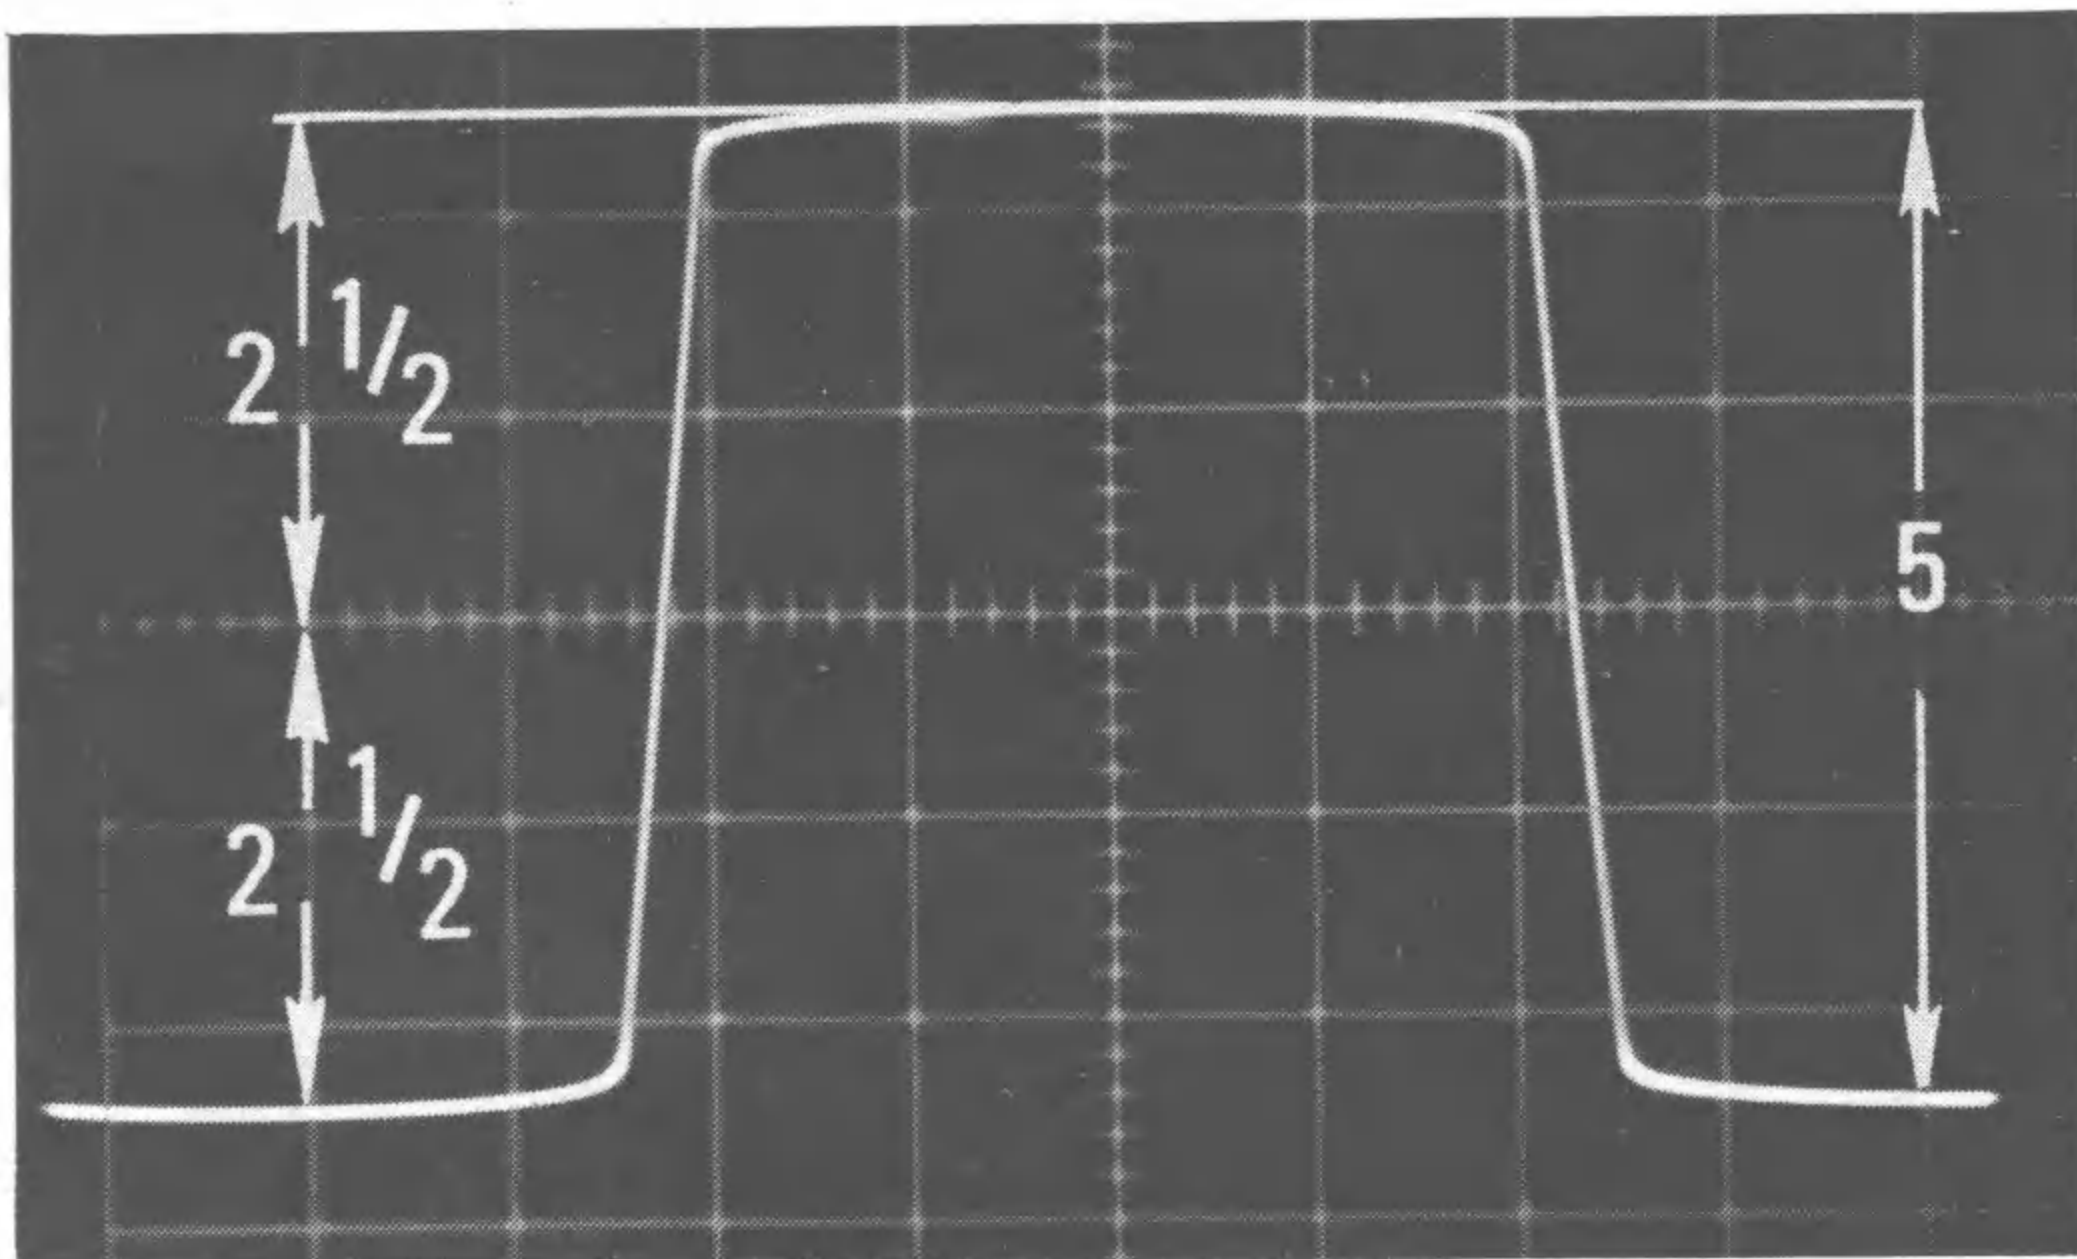

Fig. 14. Centering waveform for rise time measurement.
3. Use the VERT POS and HORIZ POS controls to center the waveform on the major vertical grid line, so that it is exactly 2½ divisions above and below the major horizontal grid line, as shown in Fig. 14.